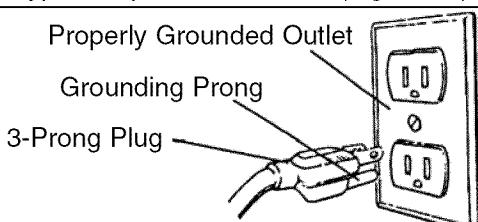

Figure 17 - 3-Prong Receptacle
Refer to Figures 17 and 18.
- Grounding plug should be plugged directly into a properly installed and grounded 3-prong grounding-type receptacle, as shown (Figure 17).